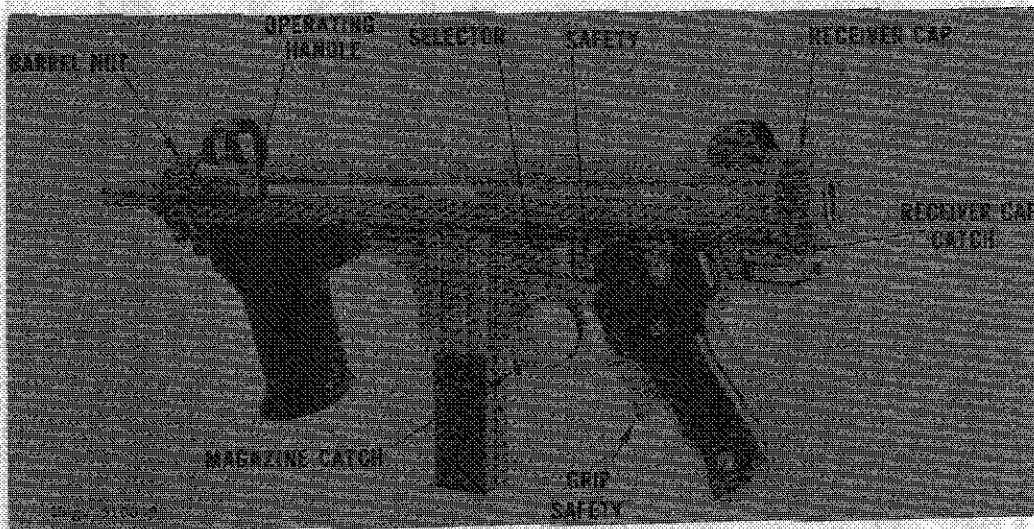

Figure 50. Beretta Model 12 submachinegun, stock folded, (late model).
b. The M12 is a blowback-operated, selective-fire weapon fed from 20- or 40-round capacity box magazines. The bolt of this gun extends forward over most of the barrel, thus allowing use of a long barrel in a fairly short and compact weapon. The Beretta M12 is easily recognized by its double-hand grips, large wedge-shaped operating handle, and grip safety in front of the rear grip (fig 50). The M12 is usually found with a folding metal stock, but a conventional, fixed wood stock is also available.
c. Insert a loaded magazine into the magazine well (fig 49) until the magazine catch snaps into place. Press the safety button (fig 50) to the left, squeeze the grip safety, and pull the operating handle (fig 50) fully rearward, then ease it forward until it is caught by the sear. CAUTION: The weapon is now ready to fire.
d. If the weapon is not to be fired immediately, place it on safe by pressing the safety button in the top center of the rear grip (fig 50) to the right. Upon release of the rear grip, the grip safety (fig 50) will automatically move to the safe position.
e. To fire, select the mode of fire by pressing the selector (above the trigger) (fig 50) to the right for semiautomatic fire and to the left for automatic fire. Press the safety button (fig 50) to the right, and squeeze the grip safety (fig 50). Aim (using a normal sight picture) and press the trigger. If the selector has been set for semiautomatic, the gun will fire one shot, after which the trigger must be released and repressed to fire a second shot. If the selector has been set for automatic, the gun will fire continually until the trigger is released or the magazine is empty. The bolt will remain open between shots but will close on an empty chamber when the last round in the magazine is fired.
f. To clear the gun, press the magazine catch (fig 50) and withdraw the magazine. If necessary, pull the operating handle fully to the rear and ease it forward until it is caught. Inspect through the ejection port to insure that no cartridges are present. Hold the operating handle, squeeze the grip safety and trigger (fig 50), and ease the operating handle forward. Push the safety button to the left (safe) and insert the magazine.